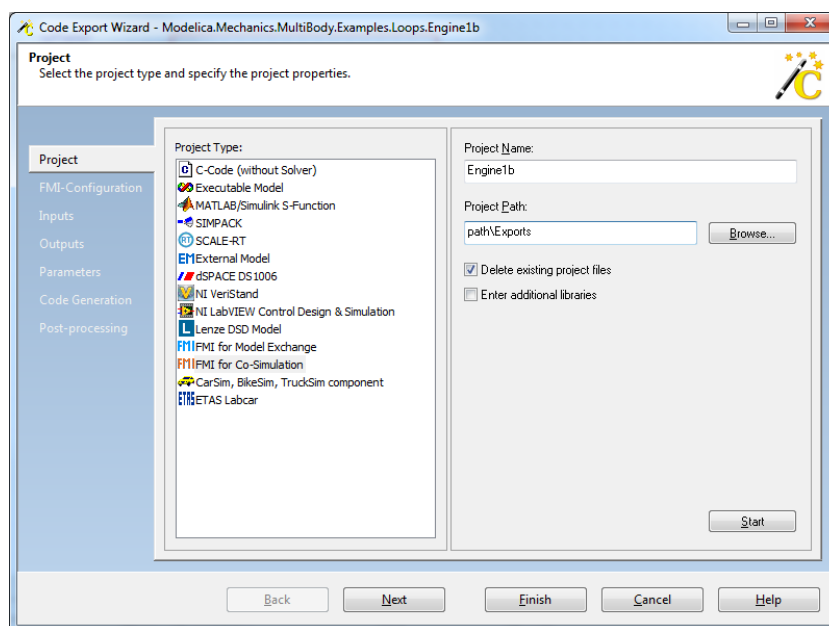

Figure 2: First Page of Code Export Wizard.
6. The first page of the code export wizard will show three columns: An enumeration of different FMU parameters on the left, the type column in the middle (which specifies the parameters), and a column on the right which will show the final parameters. Choose the project type "FMI for Co-Simulation" in the middle column, assign the name "Engine1b", and enter the project path "*<path>*\Exports" in the right column. Compare to Figure 2. Click "Next".